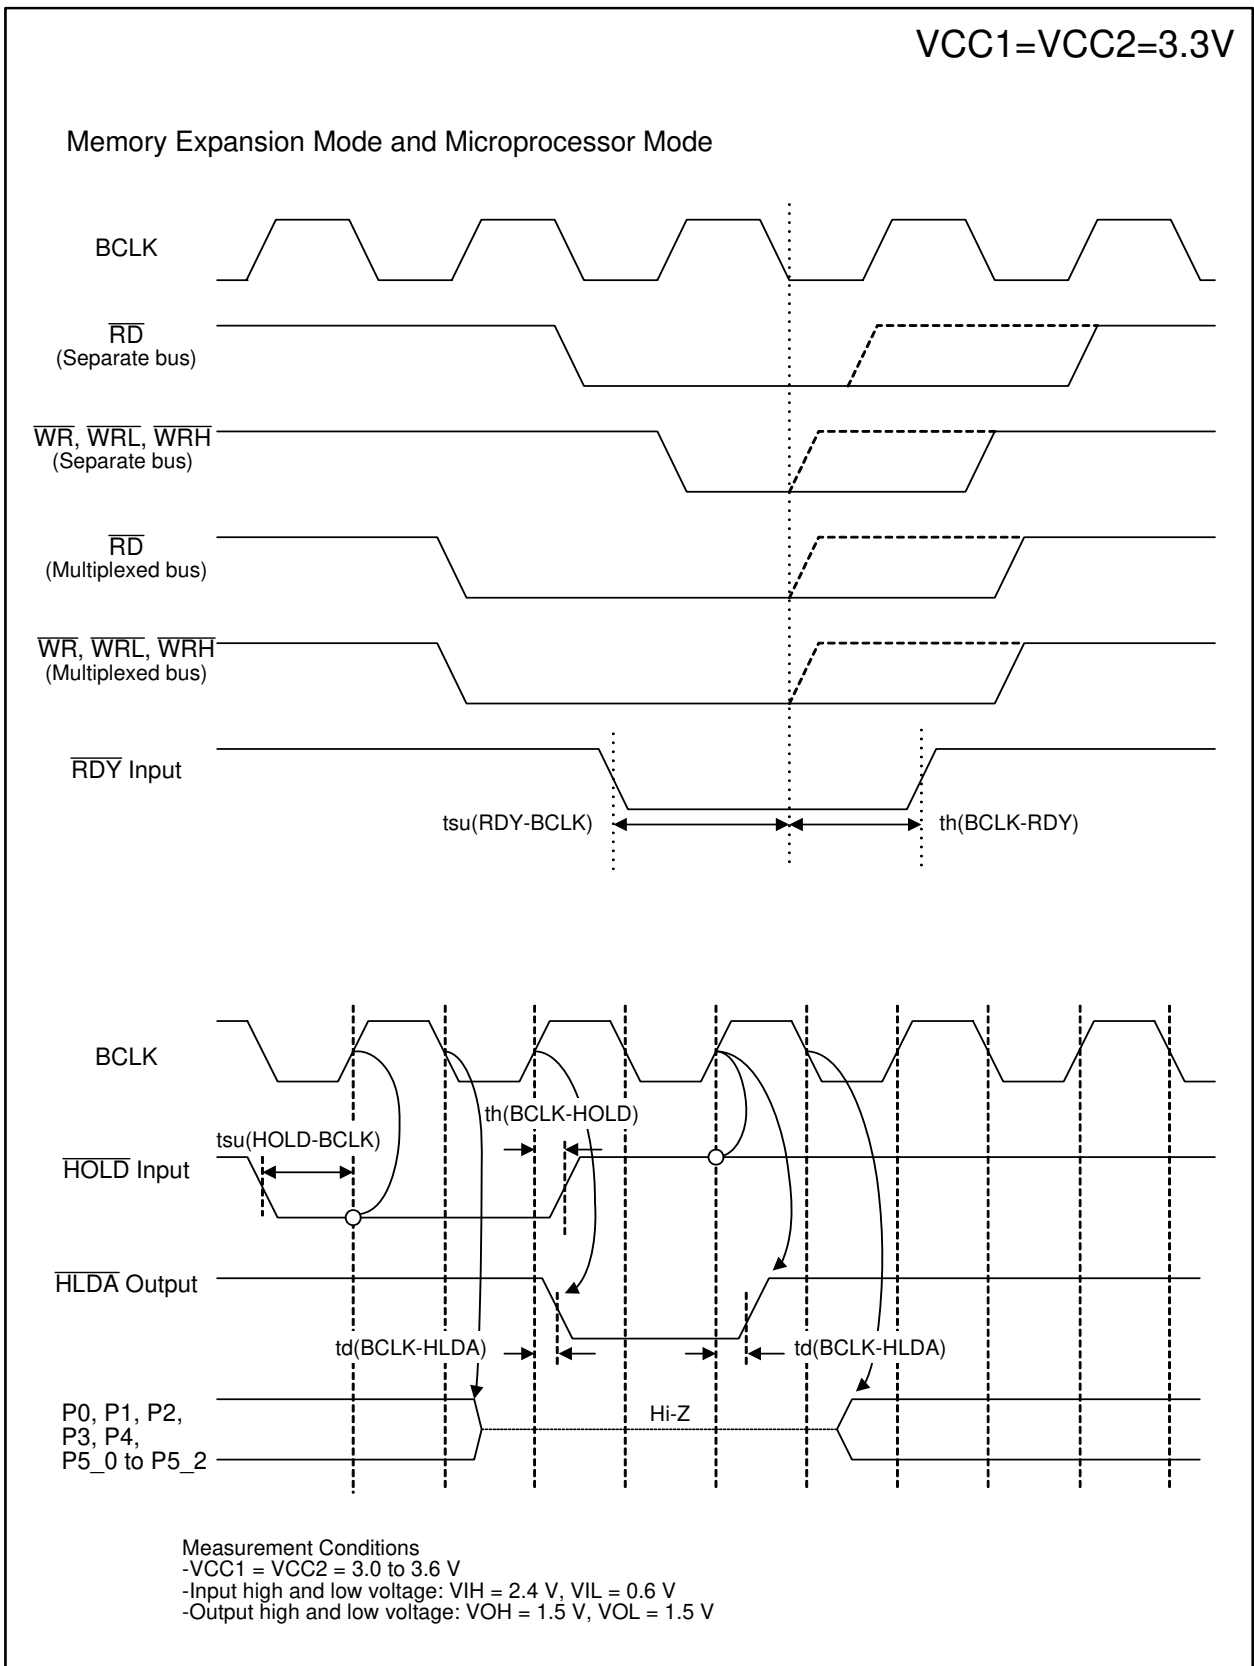

Figure 5.8 VCC1 = VCC2 = 3.3 V Timing Diagram (2/4)
72	• Figure 5.8 $V_{cc1}=V_{cc2}=3.3V$ Timing Diagram (2) $tac2(RD-DB)$ and $tac1(AD-DB)$ expressions on note 1 modified; $th(ALE-AD)$ expressions on notes 1 and 2 modified; $td(WR-AD)$, $td(DB-WR)$ and $th(WR-DB)$ expressions on note 2 modified; $tcyc$ expression added